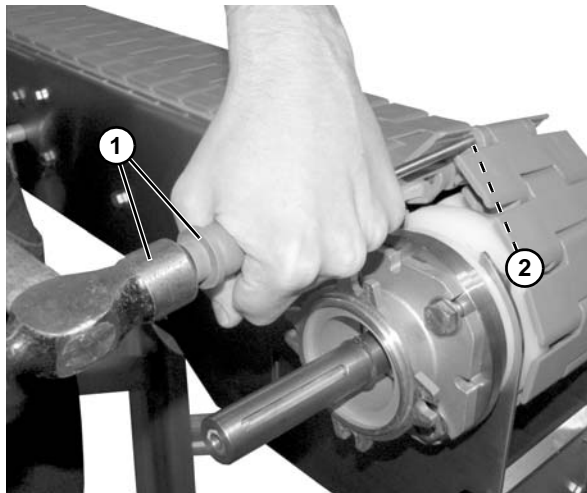

Figure 27
1. Use a punch and hammer (**Figure 27, item 1**) or belt removal tool #514698 to push the belt rod (**Figure 27, item 2**) out by striking the rod end.